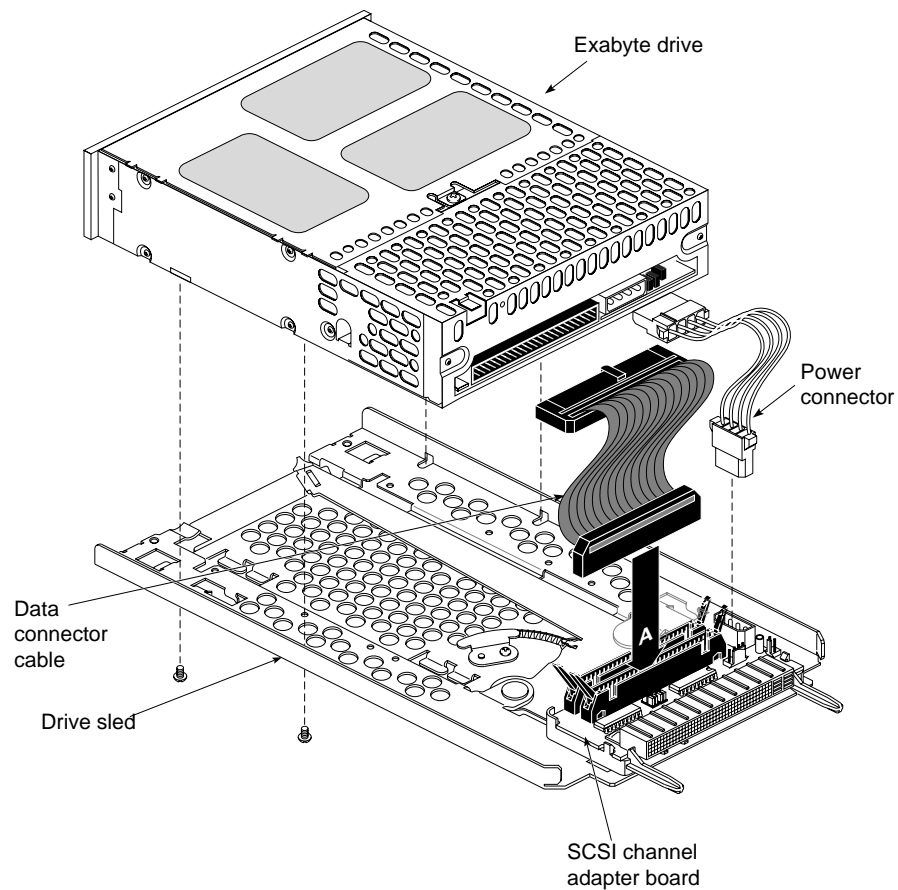

Figure 1-1 Removing/Installing the Drive From/On the Drive Sled
1. Remove the four screws that secure the drive to the bottom of the mounting sled (see Figure 1-1) and set them aside.
2. Remove the drive adapter and power cables from the 8505XL (see Figure 1-1) and then place the drive on an anti-static surface.
5. After changing the SCSI ID, place the tape drive back on the drive sled (see Figure 1-1).
6. Reconnect the drive adapter and power cables (see Figure 1-1).
7. Install the four screws that secure the bottom of the drive to the drive sled (see Figure 1-1).